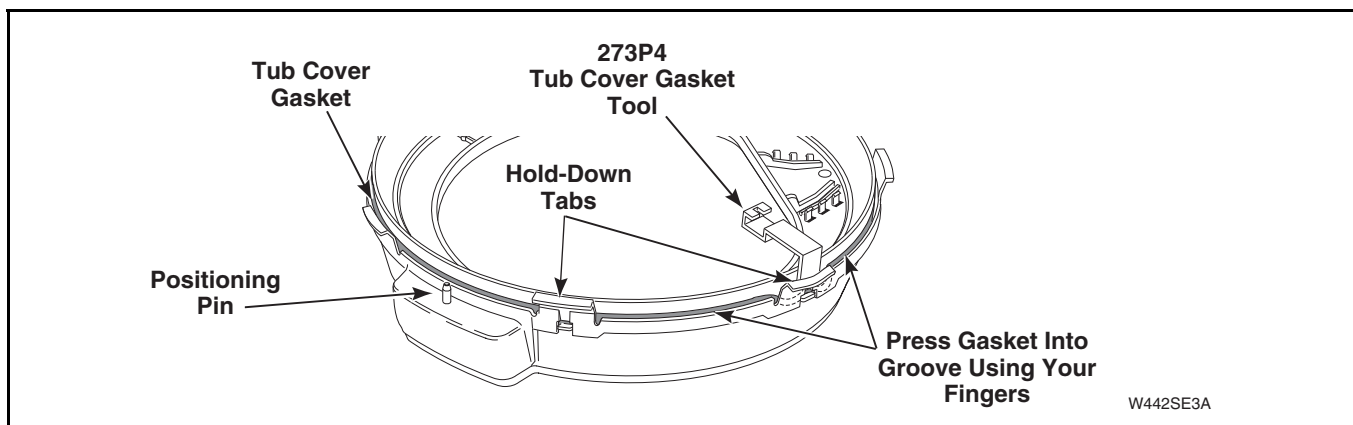

Figure 38
- g. Starting at positioning pin located at the bleach funnel area, lay gasket into gasket groove of tub cover. Refer to *Figure 38*.
- i. Install gasket past ends of hold-down tabs to bottom of gasket groove using semi-circled end of tool Part No. 273P4. Refer to *Figure 38*.
- (3) Starting at the positioning pin located at the bleach funnel area, lay gasket into gasket groove of tub cover. Refer to *Figure 38*.
- (4) Using your fingers, press gasket down into gasket groove of tub cover. Avoid pressing gasket past ends of hold-down tabs.
- (5) Install gasket past ends of hold-down tabs to bottom of gasket groove using semi-curved end of tub cover gasket tool Part No. 273P4. Refer to *Figure 38*.